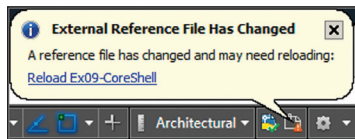

FIGURE 9.25 Balloon notification that an Xref has changed
9. A balloon appears in the drawing status bar informing you that an external reference has changed (see Figure 9.25). If no notification balloon appears, right-click the Xref that needs to be reloaded in the External References palette and choose **Reload**. Click the hyperlinked blue text in the balloon to reload the `Ex09-CoreShell` Xref. The changes made to the women's washroom are now visible in the tenant drawing.